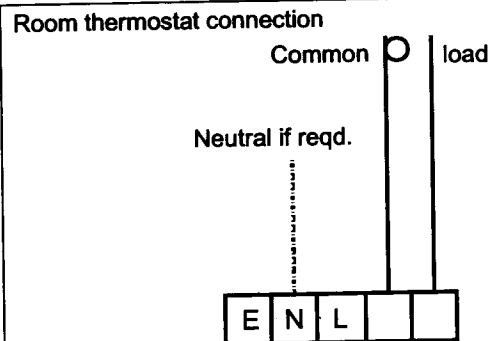

Fig. 29
- connect common and load wires from room thermostat as shown in fig. 29.